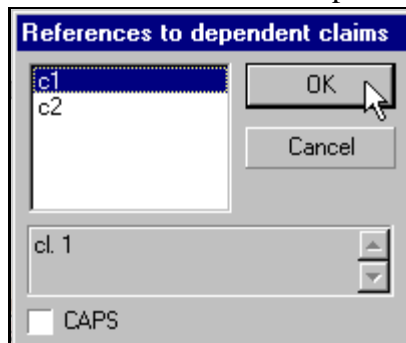

Figure 4-11 References to Dependent Claims
- 4b. Click in the document window at the point where you plan to refer to the dependent claim, then click on the **Dependant Claim Reference** button on the toolbar. The **Reference to Dependent Claims** window opens (Figure 4-11).